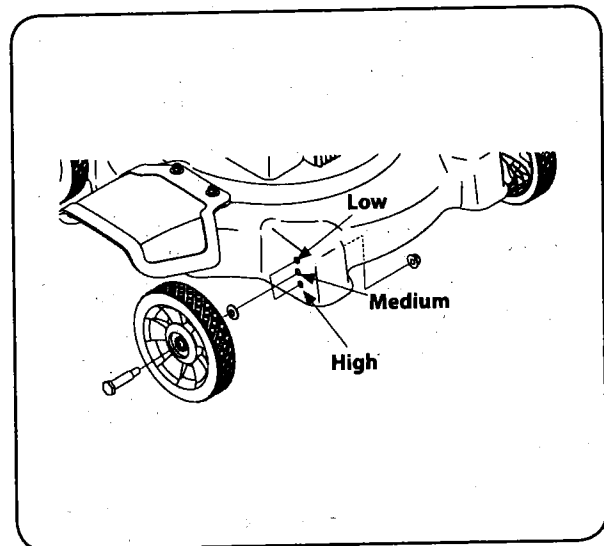

Figure 3-11
1. Remove the carriage bolts and related hardware from the wheels. See Figure 3-11.